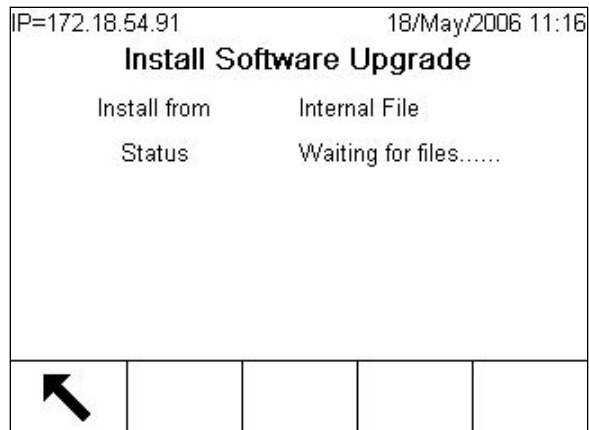

Figure 4-3: Firmware Upgrade – Waiting for Files
7. Press the START softkey \diamond to perform the upgrade. If the files are not present in the Upgrade folder, the screen shown in Figure 4-3 appears. Performing the copy operation from InSite will